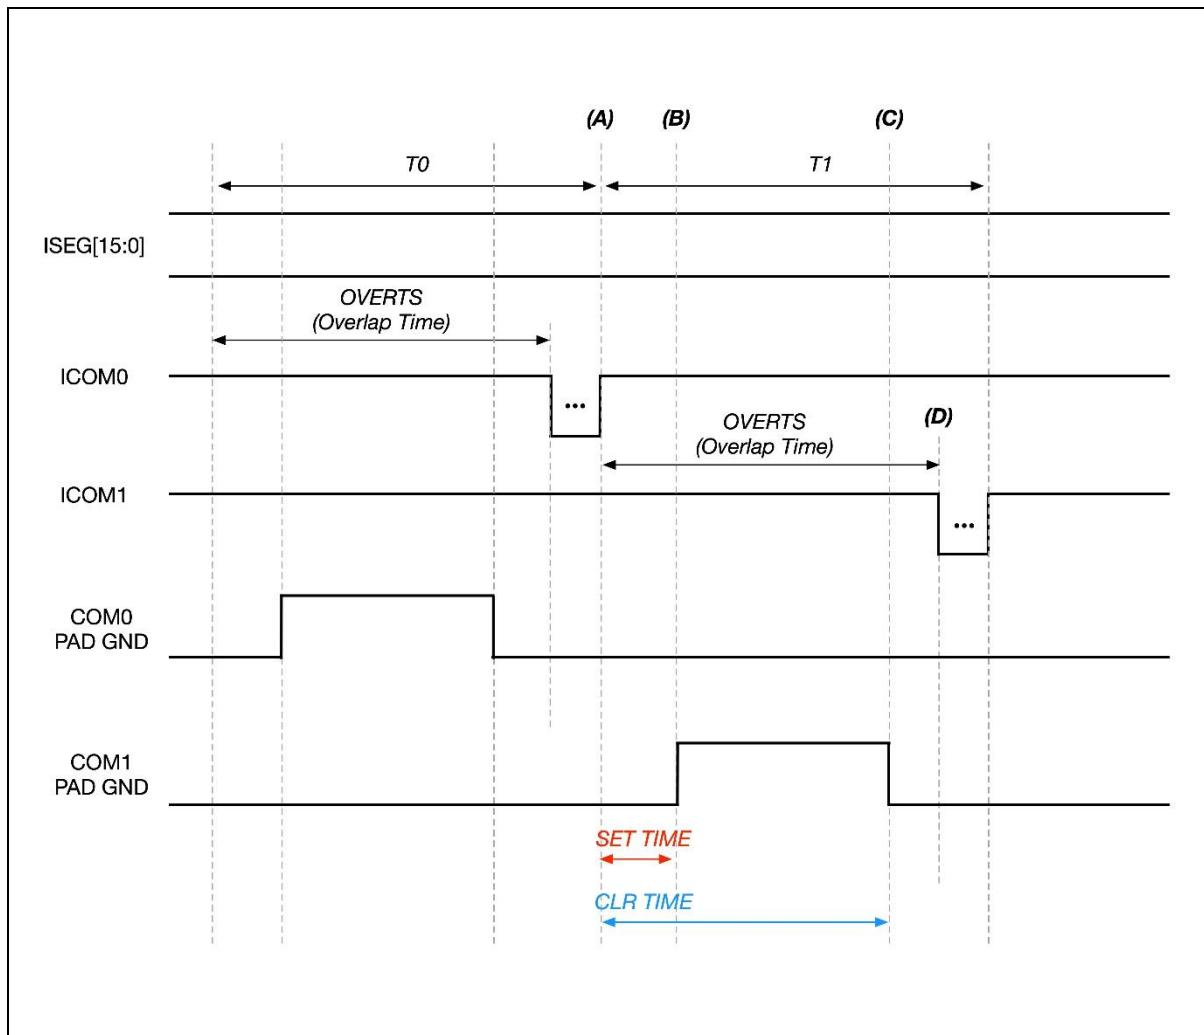

Figure 125. Timing Diagram of ISEG-GND Function
Figure 125 shows a timing diagram of the ISEG-GND function, where PAD control signal is generated during the overlap time between ICOM0 and ICOM1. In the figure, (A) represents the ICOM0 end point, (B) the ISEG-GND active point, (C) the ISEG_GND inactive point, and (D) the ICOM1 start point, respectively.